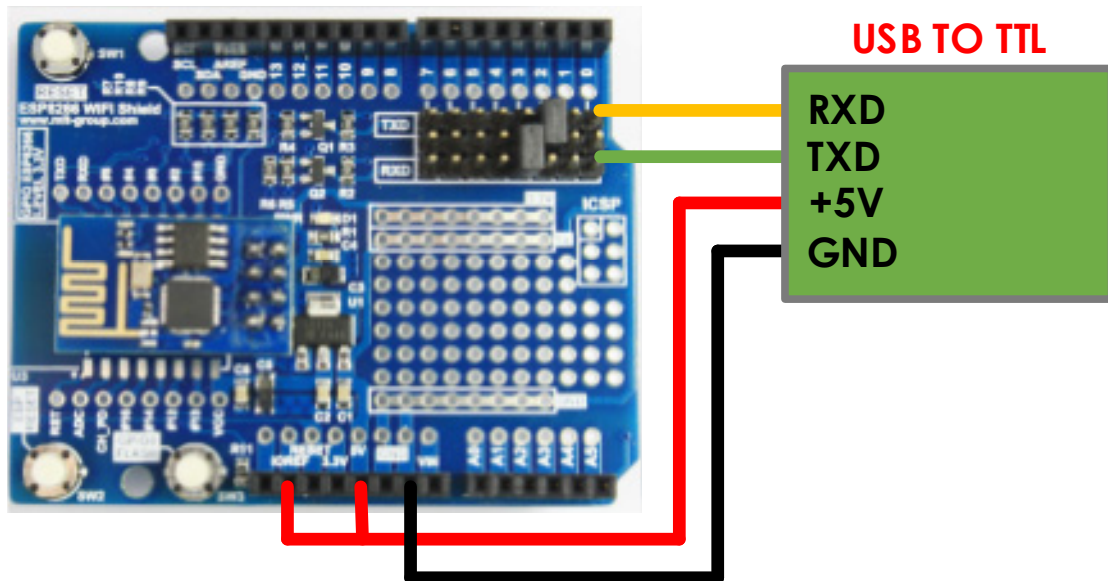

Figure 17. ESP8266 WIFI Shield wiring to upgrade firmware
1. Connect this ESP8266 WIFI Shield to your ESP8266 module and the USB to TTL cable such as FT232R as figure 17.